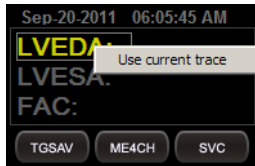

Fig. 65 Manually updating a trace value
- 2 Select the “Use current trace” option, as shown in Figure 65.